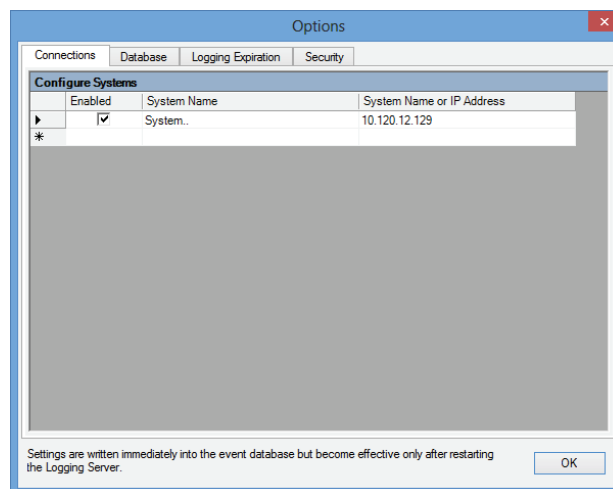

figure 58.5: Options window
- 2 Click *File > Options*. A screen similar to the one in figure 58.5 appears.